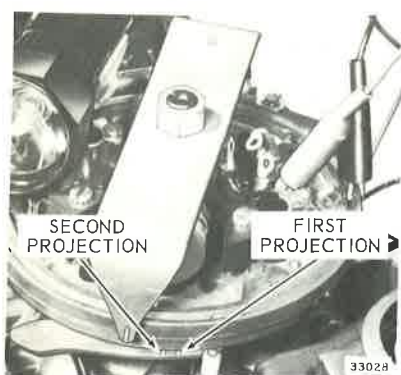

Figure 4-28. Timing Fixture
c. Place timing fixture (Special Tool #383602) on crankshaft. Rotate the crankshaft so that the side of the fixture marked "T" (top) is aligned with the first projection on the armature plate. See Figure 4-28.
d. Move the timing fixture or the armature plate slowly back and forth until the exact instant at which the points close is determined, as indicated on the light or meter. The points should break open when the timing fixture is midway between the two projections on the armature plate. See Figure 4-28.